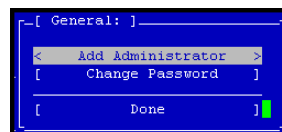

Figure 225. General Settings Window
1. On the Configuration Interface main menu, tab to General Settings and press Enter. The General window opens, shown in Figure 225.